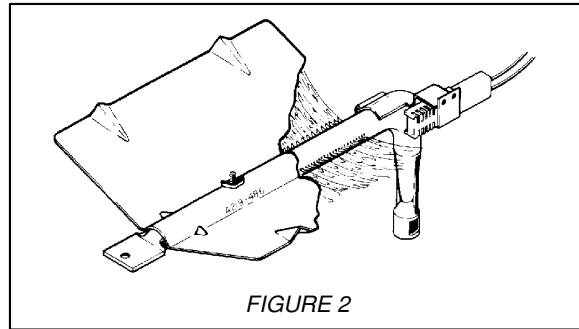
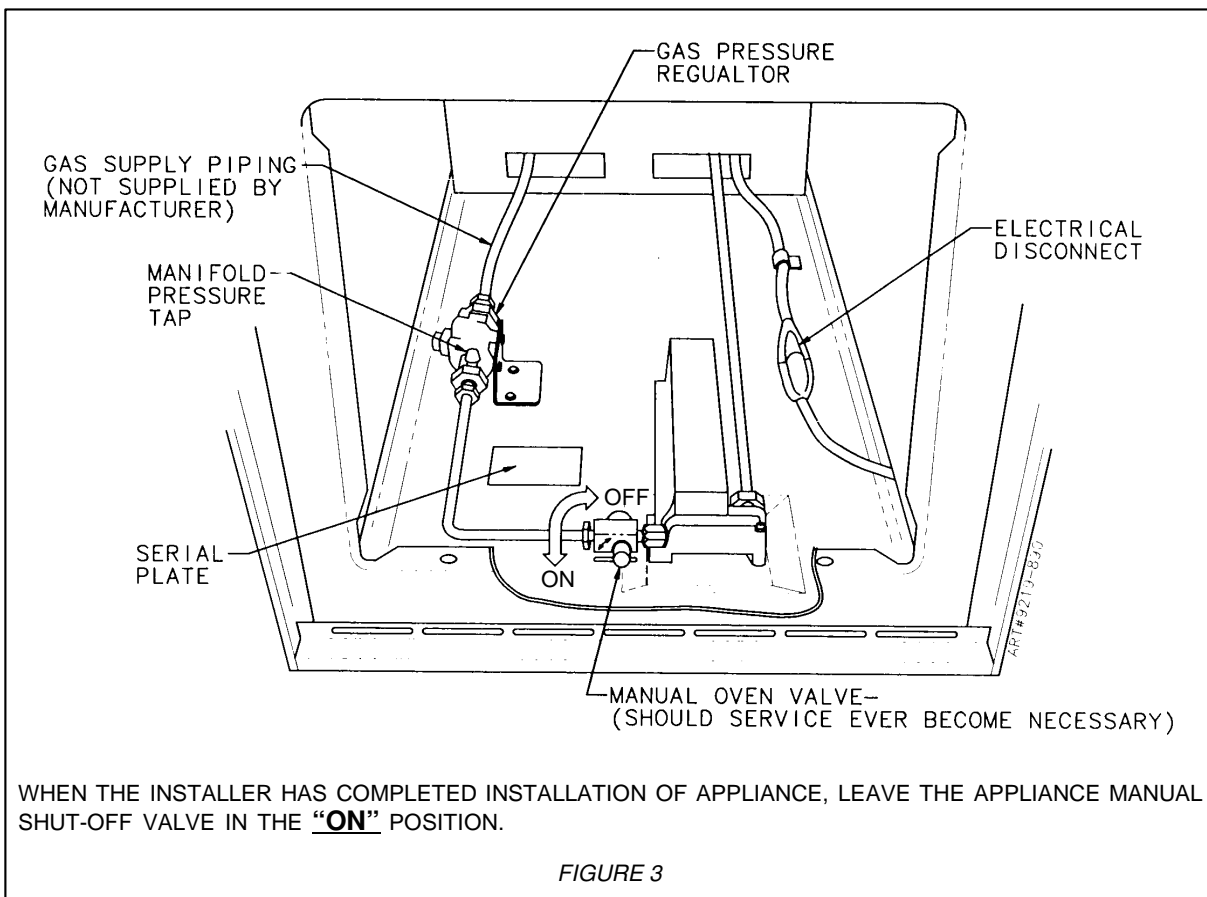

FIGURE 2
FIGURE 3
a. The bake burner is equipped with an electric control system as well as an electric oven burner ignitor (figure 2). This control system requires NO adjustment. To operate, turn thermostat knob to any temperature setting or to broil. Current will flow to the ignitor. It will "glow" similar to a light bulb. (This glow may be reflected into the oven through the openings in the oven bottom). When the ignitor has reached a temperature sufficient to ignite gas, the electrically controlled oven valve will open and flame will appear at the oven burner. There is a time lapse from 30 to 45 seconds after the thermostat is turned ON before flame appears at the oven burner. When the oven has reached the dial setting, the glowing ignitor will go OFF. The burner flame will go "out" in 20 to 30 seconds after the ignitor goes "OFF". To maintain any given oven temperature this cycle will continue as long as the dial is at the given temperature. Figure 3 is an illustration of a typical range.
- b. In case servicing should become necessary, a manual gas valve to shut off the gas to the oven burner is supplied between the gas regulator and the oven burner valve. It is located at the front of the oven bottom or on right rear of gas regulator. See figure 3.